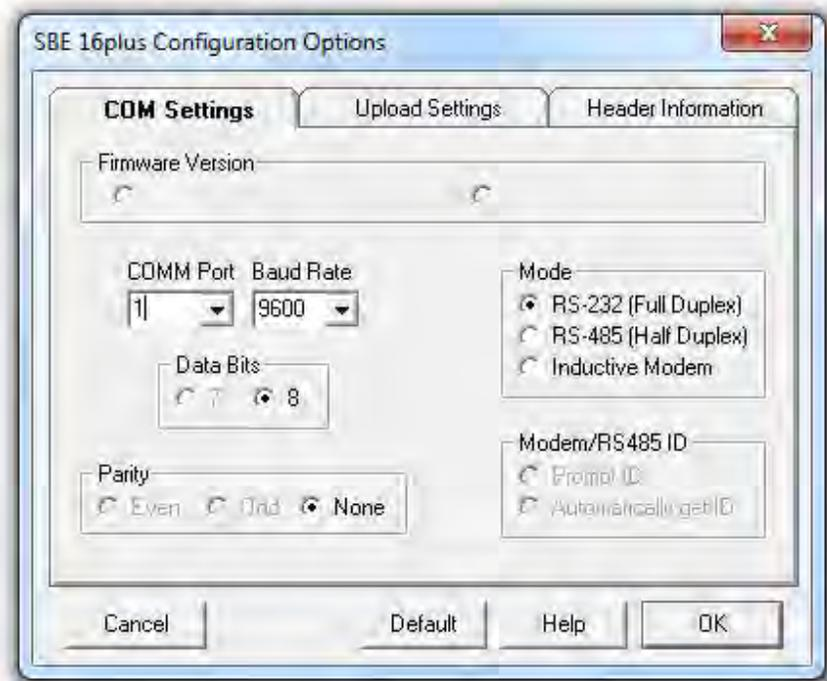

Figure 3. Image of COM Settings tab within the SBE 16plus Configuration Options dialog box.
2. Go to menu **Configure** and select **SBE 16*plus*...** which will open the **SBE 16*plus* Configuration Options** dialog (Figure 3).